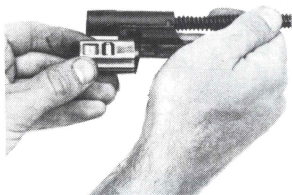

Figure 16C
b. Turn the bolt head 90 degrees toward you. It will pop slightly forward and you may remove it. (Figure 16C).